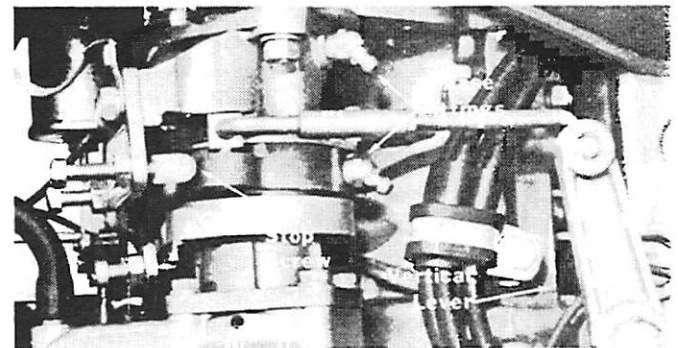

Figure 9. Vertical Lever and Idle Stop Screw
3. Position vertical lever so that magneto is held lightly against idle stop screw. (Figure 9) Attach cable end guide to vertical lever swivel without disturbing setting. (Figure 9) If necessary, readjust barrel for correct position and to compensate for cable backlash.
4. Move single lever remote control handle to forward position and then back to neutral position. Check that magneto is held lightly against idle stop screw (Figure 9) when handle is in neutral position.